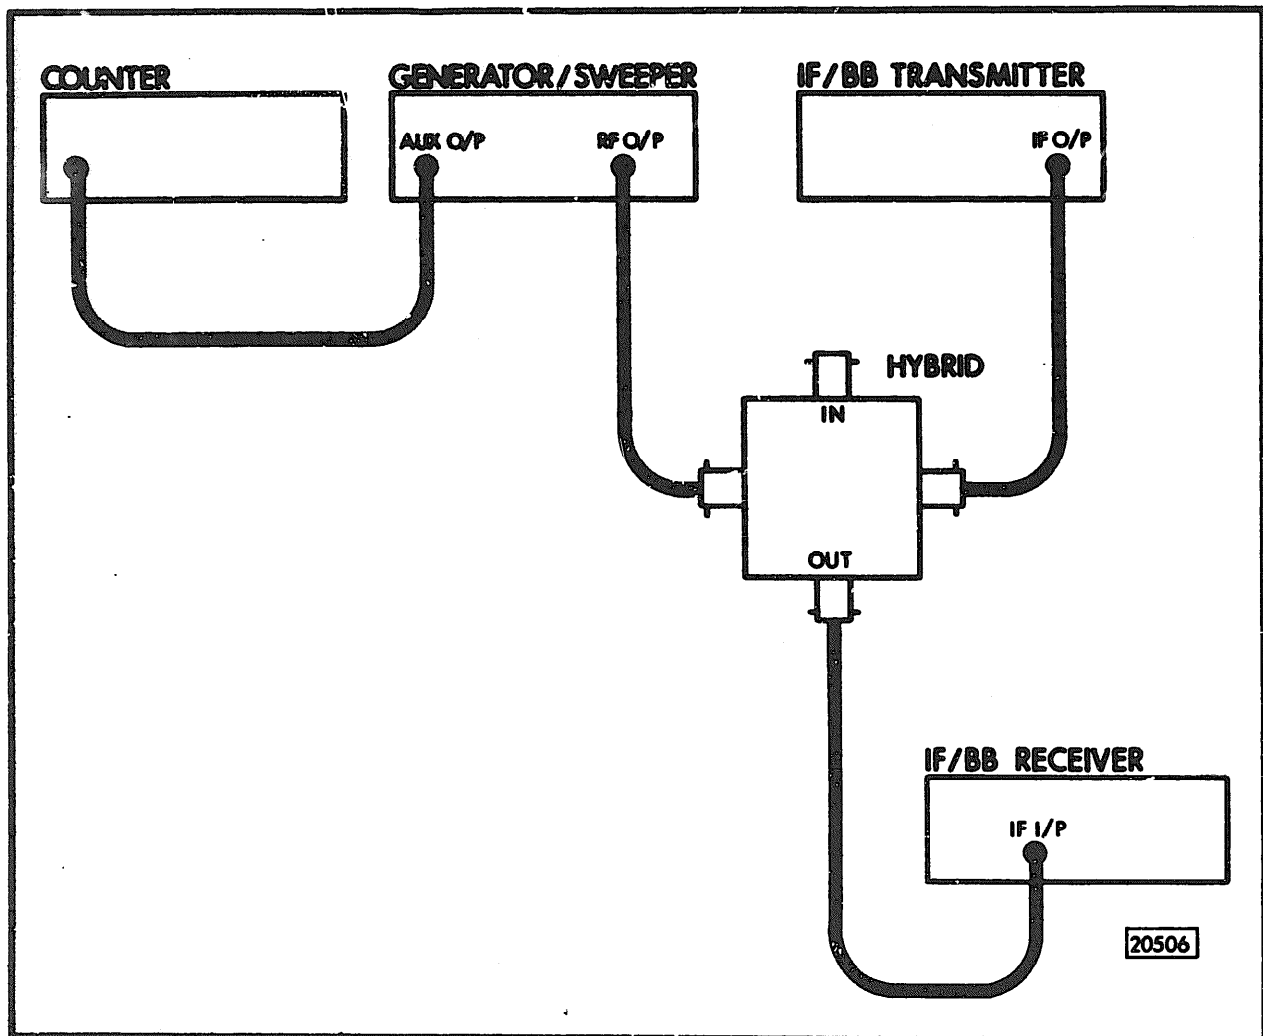

Figure 4-13 Frequency Markers Check
3. Connect the equipment as in Figure 4-13.